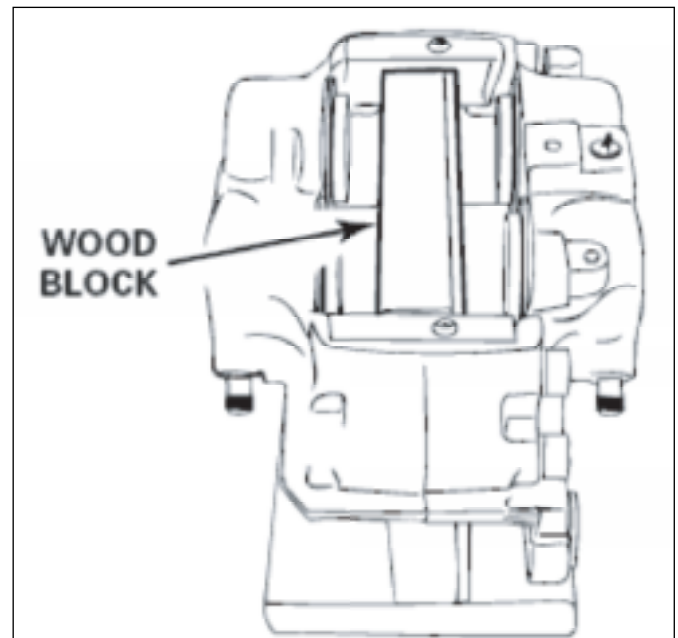

Fig. 5-7. Remove caliper mounting bolts.
- Place a block of wood, figure 5-7 (7-5/8 x 3-1/2 x 2-9/16-inches thick) between the caliper pistons, figure 5-7. Use a C-clamp to hold the block of wood against the pistons on one side of the caliper.